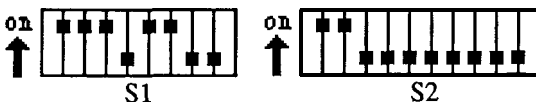

Figure 3
- 1) Set the switches on the TWINPORT circuit board as shown in Figure 3.